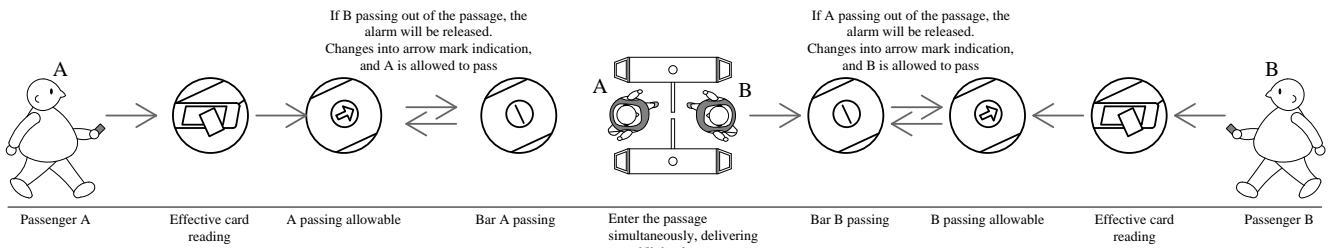

Fig.12
- The process is as given in Fig.12